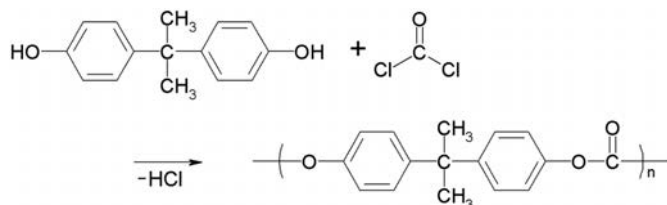

Figure 27.6p. Formation of polycarbonate from bisphenol A and phosgene. (Credit: Photo by Akane700, PDM)
Polycarbonates (PC) are a group of thermoplastic polymers containing carbonate groups ($-\text{O}-(\text{C}=\text{O})-\text{O}-$) in their chemical structures. The main polycarbonate material is produced by the reaction of bisphenol A (BPA) and phosgene COCl_2 . The overall reaction is shown in Figure 27.6p.